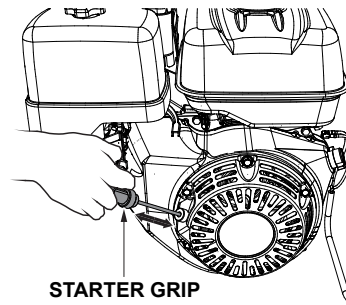

Figure 21. Starter Grip
5. Grasp the starter grip (Figure 21) and slowly pull it out. The resistance becomes the hardest at a certain position, corresponding to the compression point. Pull the starter grip briskly and smoothly for starting.